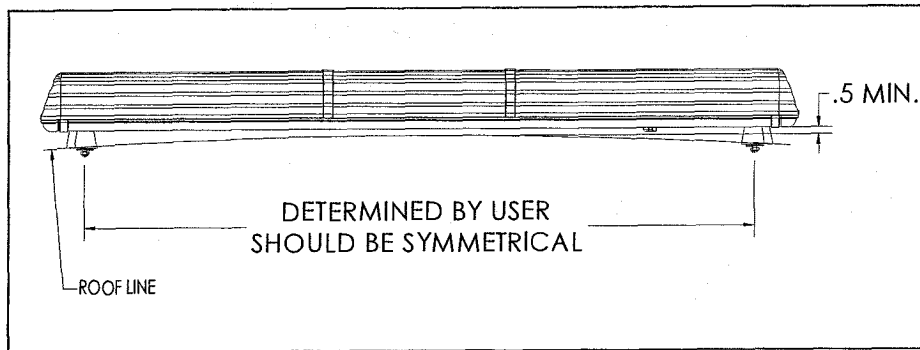

Figure 1
Before proceeding with installation, plan all wiring and cable routing. Select the mounting location for the light bar on a flat, smooth surface, light assembly should be centered (left to right). If the light bar is to be mounted on a curved surface, such as on the roof of the vehicle, choose a placement with the least amount of curvature. The mounting location for the light bar should be chosen such that there is maximum visibility to the oncoming traffic. Use the following instructions for mounting (refer to Figure 1).
3. With the location determined, adjust the two mounting feet to a desired symmetrical location on the bar. Make sure that both mounting feet are in full contact with the roof and not hanging off the edge. Also, be sure that there is no less than $\frac{1}{2}$ " clearance between the roof and the light bar at their closest point (Fig. 1). When the feet have been placed in their desired location, mark the drilling hole locations. The center distance between the holes on each foot is 3.937 inches [100 mm].